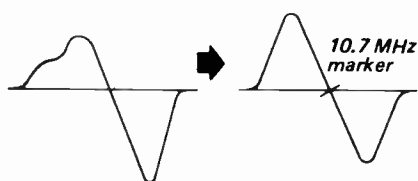

Fig. 3-7.
3. Turn the core of discriminator transformer (IFT F204) to obtain the "S" curve response shown in Fig. 3-7.